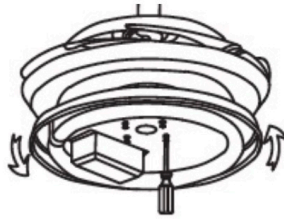

Fig. 6
Join the LED light bracket (11) to the main body (9) of the fan by turning the bracket (11) until it is fixed and aligned with the three screws of the main body (9) of the fan; then, tighten the screws and the previously removed screw. Fig. 6